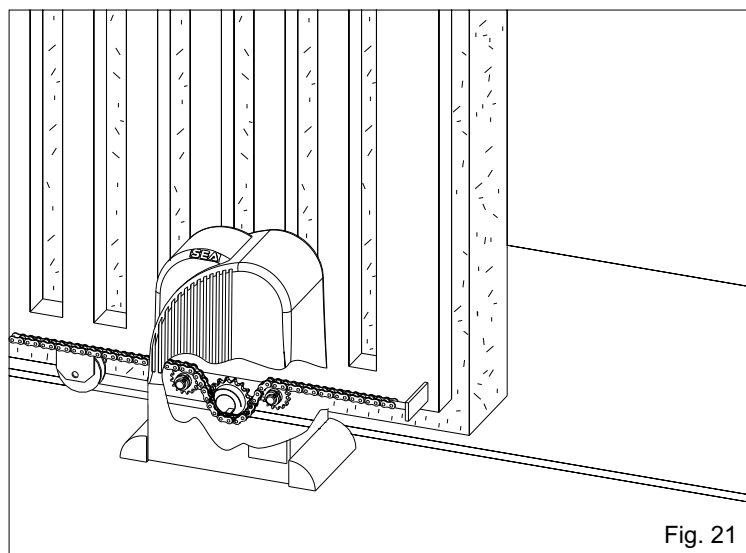
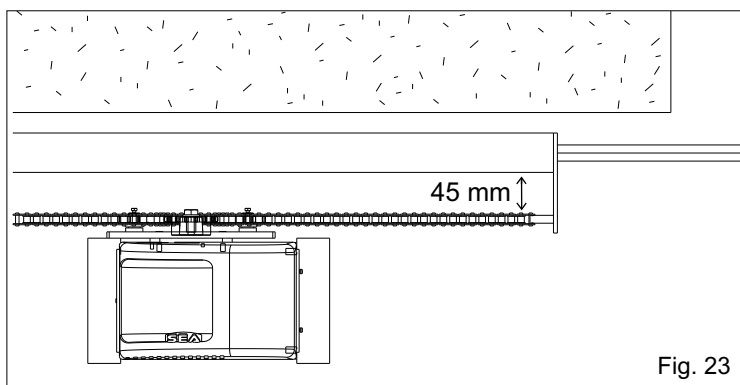
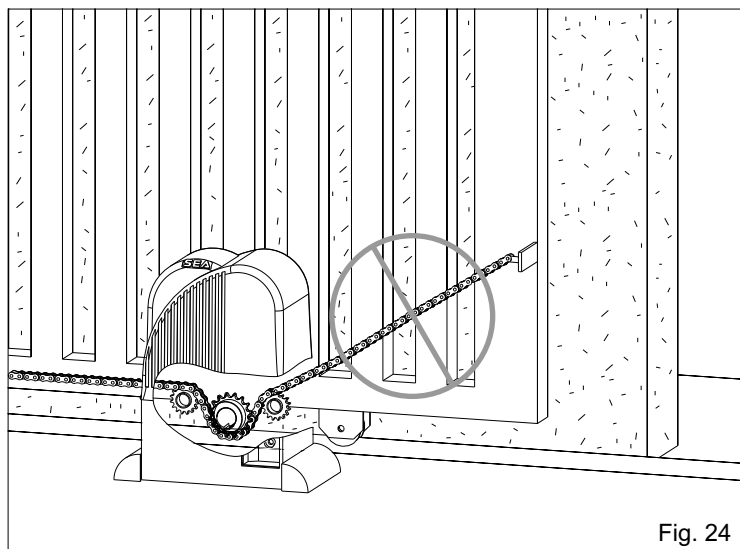

Fig. 21
Fig. 23
Fig. 24
**Notice:** the holes for the chain tensioner and so the chain itself must be to a minimum distance of 45 mm from the gate (Fig. 23).
The chain must be always in line both vertically (Fig. 21) and orizontally (Fig.23), if not perfectly aligned (Fig. 24 and 25) it may derail from the pinion group or the motor reducer risks a greater effort not allowing the right operating of the system.